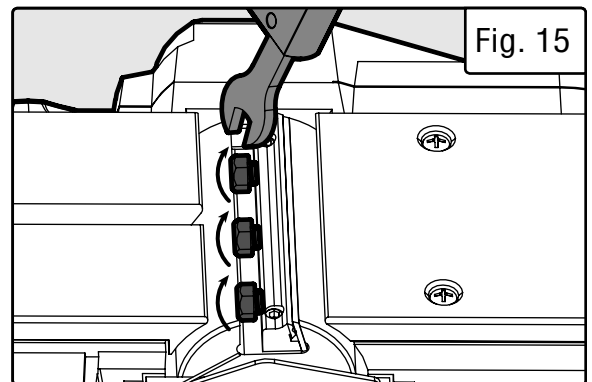

Fig. 15
10. Tighten the clamping screws using the blade wrench, ensuring that all three screws are tightened evenly (Fig 15).